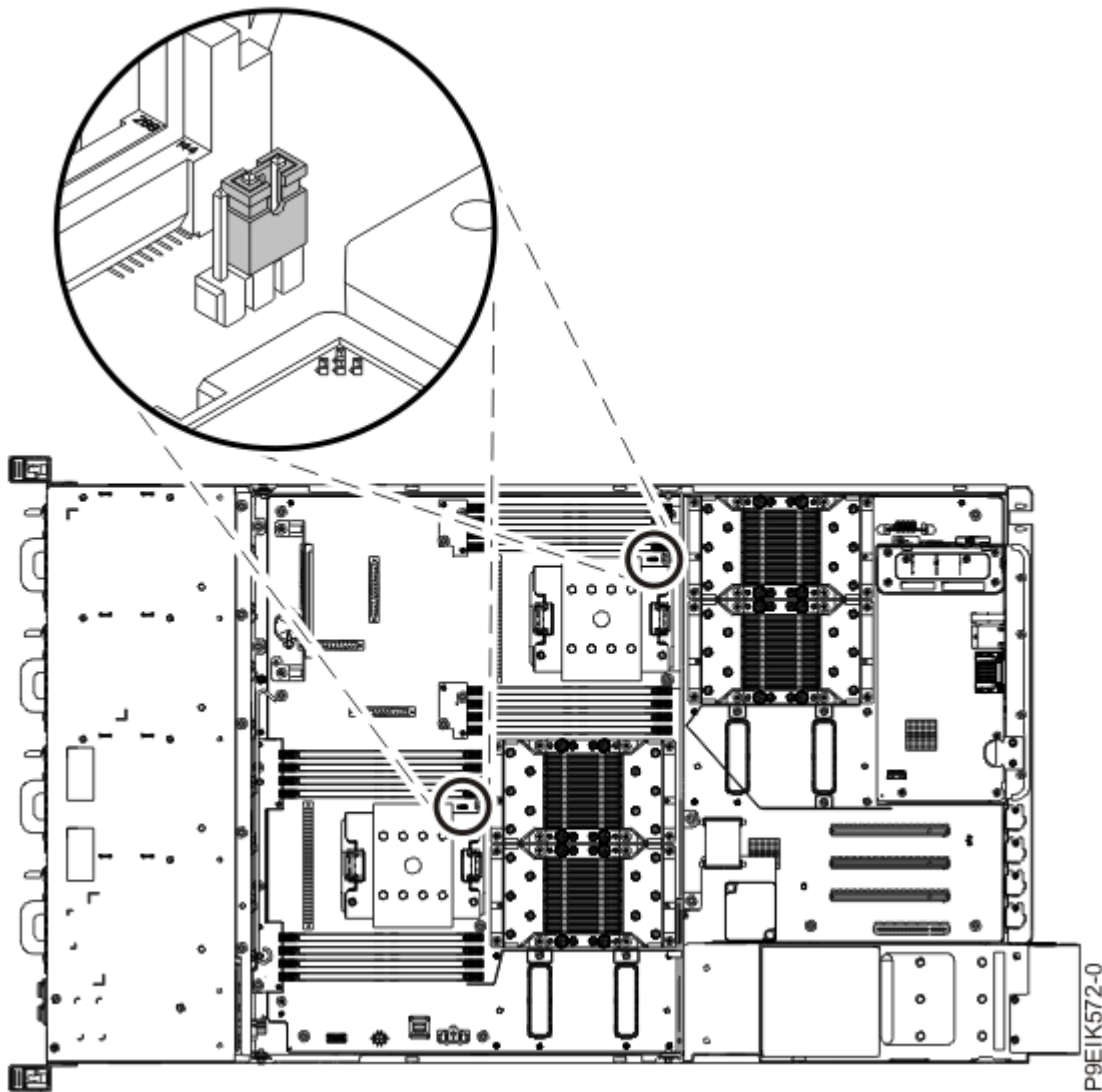

Figure 59. System processor jumper positions
12. Remove the system processor jumpers from the system backplane as shown in Figure 59 on page 110.